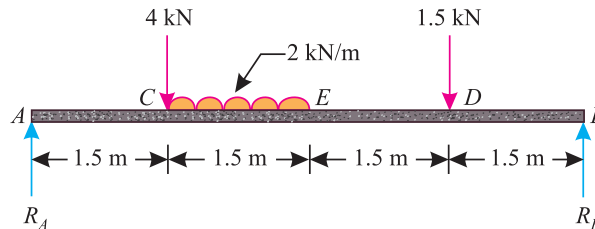

Fig. 12.8.
**Example 12.2.** A simply supported beam, AB of span 6 m is loaded as shown in Fig.12.8.